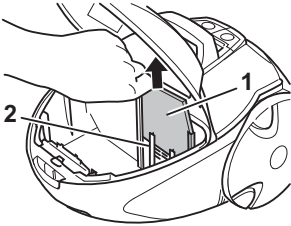

Fig. 22
2. Pull the protective motor filter (Fig. 22/1) up out of the receptacle (Fig. 22/2).